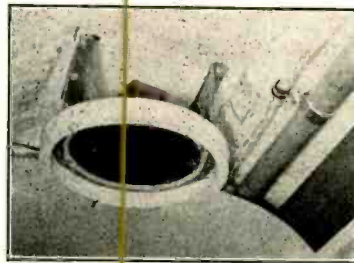

Fig. 3. Details of loudspeaker installation. The speaker may be dropped down for maintenance.
Fig. 3. (A) Losser circuit to provide low-frequency boost. This circuit is usually placed between two high- $\mu$  triode stages. (B) Feedback circuit commonly used in preamplifiers to provide required low-frequency boost.
Figure 3 shows two usual ways of providing the required low-end boost to compensate for this characteristic. (A) consists of a losser circuit placed between two high-gain triode stages. This type introduces a loss which increases gradually from zero at zero frequency up to a maximum at the frequency where the reactance of the capacitor becomes a small portion of the total impedance of the shunt circuit across the line. Above this frequency the loss is practically constant. The output voltage for zero frequency is essentially equal to the input voltage; at high frequencies it is approximately equal to  $R_2/(R_1 + R_2)$  times the input voltage.